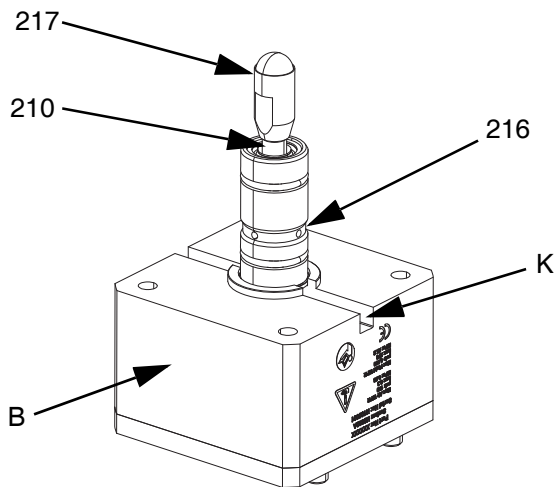

FIG. 7
2. Apply grease on the outside of the cartridge kit (216).
3. Apply a light amount of the supplied purple anaerobic adhesive to the bottom threads of the piston rod (210).
4. Screw the ball assembly (217) on the piston rod (210).
5. Place the valve in a vertical position in a vise. Place an Allen key through the piston rod (210) located in the Weep Hole (K). See FIG. 7.
6. Use a small torque wrench with a 1/2 in. or 13 mm crowfoot to tighten the ball assembly (217) to the piston rod (210). Torque to 54-60 in-lbs (6.1-6.8 N•m).